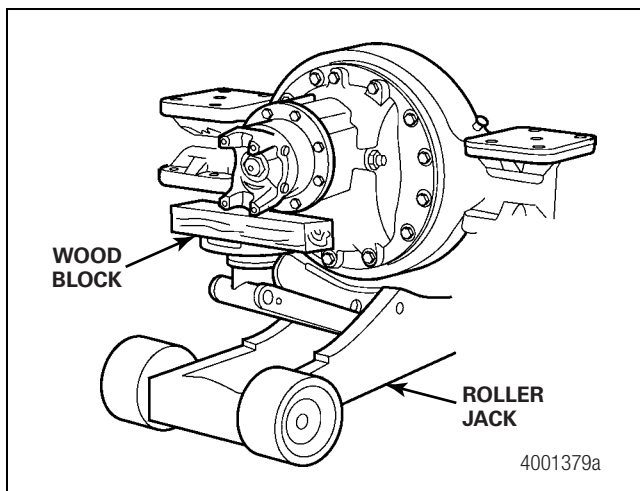

Figure 3.5
10. Place a hydraulic roller jack under the differential carrier to support the assembly. Figure 3.5.